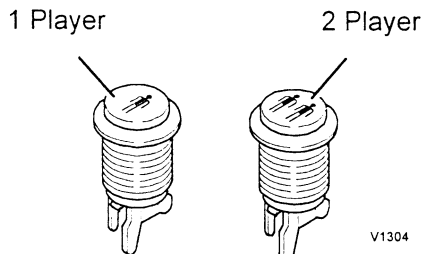

FIGURE 6: Start Buttons
15. There are two white buttons include in the kit (See Figure 6.). Install the 1 PLAYER button & retaining ring to the top left-hand side of the control panel and the 2 PLAYER button & retaining ring to the top right-side of the control panel. These buttons function as the game start buttons.
19. A remote Volume and Test switch bracket (see Figure 6) is included in this kit. Your cabinet may already contain this bracket. If you need to add the bracket to your cabinet, the bracket should be mounted inside the coin door and on top of the cash box for easy access.